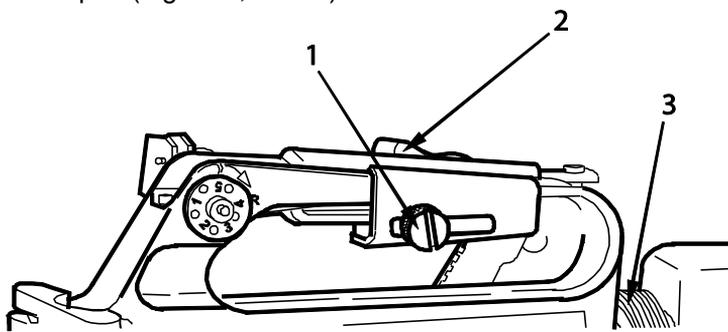

Figure 1 Quadrant Sights
1. Loosen knurled screw (Figure 1, Item 1), remove quadrant sight (Figure 1, Item 2) from host weapon (Figure 1, Item 3).